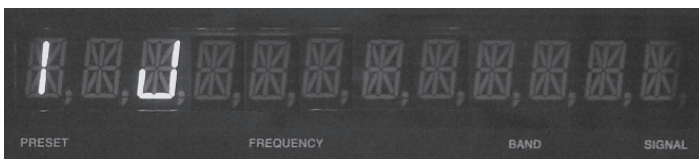

Figure 8
4. Rotate the TUNING Knob clockwise to scroll through the alphabet until the character "J" appears. Refer to figure 8.